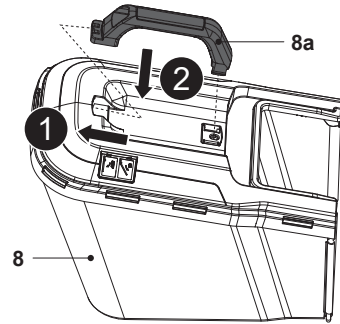

Fig. 6
2. Assemble the carry handle (8a) into the two assembling slots on the top frame of grass catcher (8), paying attention to the correct orientation (Fig. 6).